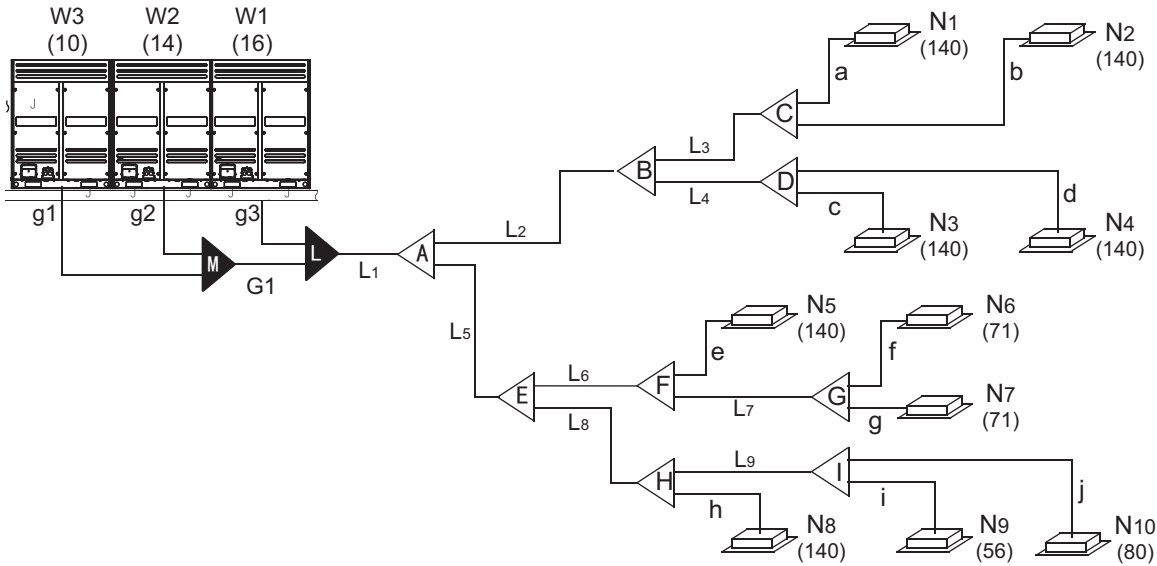

Fig.2-33
- 2) Take Fig.2-33 as an example. Provided that the equivalent length of all pipes in this system is larger than 90m.